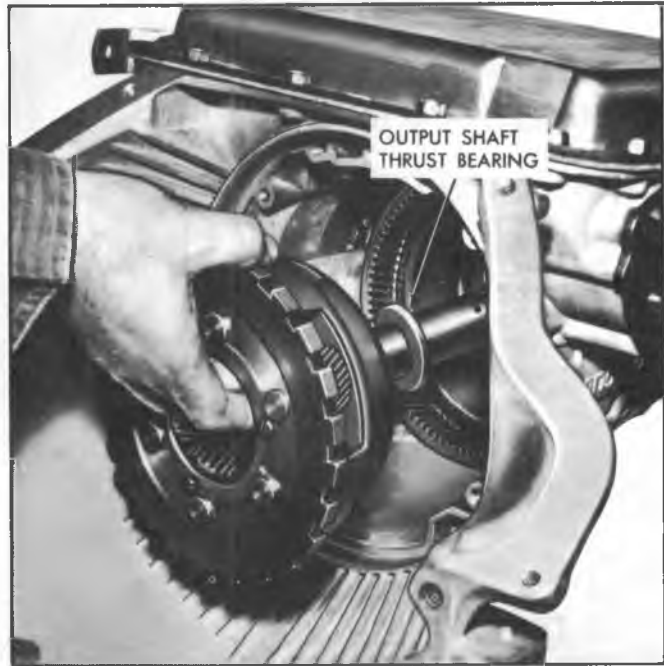

Fig. 31PG—Installing Gearset
15. Place the output shaft thrust bearing over the output shaft and install the planetary carrier and output shaft into the transmission case (fig. 31PG).